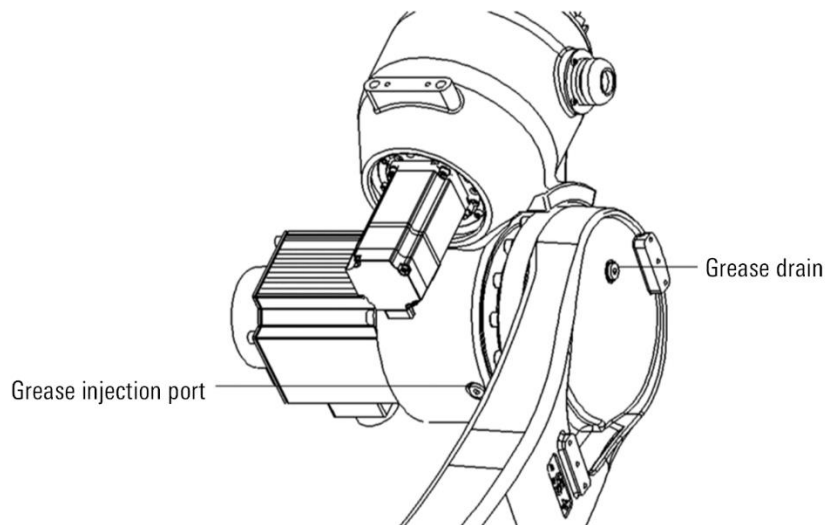

Figure 12-8 Replace J3 axis reducer grease
- Step4. Remove the grease outlet M10x1 plug, as shown in Figure 12-8.